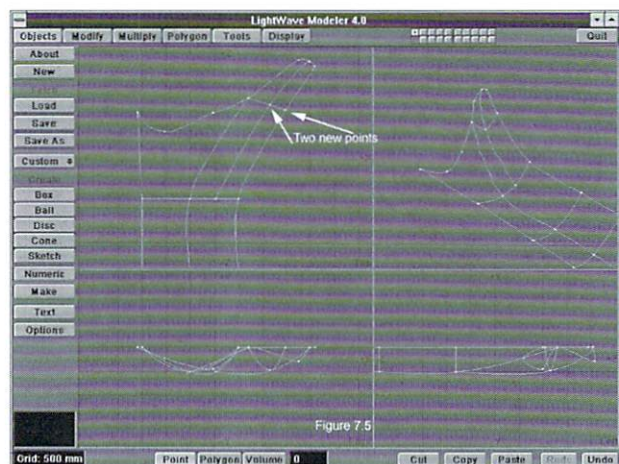

Figure 8
Now it's time to fix the curve that will control the depth for the thumb region. Remember, this "straight curve" has only two points. After adding the middle point to the straight curve, we'll add another point to the right Z-axis curve. The new points will be used to create another cross section curve in the thumb region. (Later, you can alter the positions of these points to give the thumb more definition.) Look at Figure 8 and create a curve that is similar to mine or follow the steps outlined below:
- Use **Add Point (Polygon)** panel to create a new point on the middle thumb curve and right Z-axis curve. Look at Figure 8 for the point placements.
Can you find the area that does not conform to the above rule? Follow our thumb curve along the Z-axis. Somewhere the geometry should cease to form perfectly aligned quadrangle spline sections. If this is not corrected, heinous, model-threatening rendering errors will occur. Assume we use patch values of 5 for perpendicular subdivisions and 5 for parallel subdivisions without fixing the alignment error. You can see in Figure 8's wireframe preview window, that we already have two small patch regions that lie directly above one large patch region. The junction between these two curves is where the error will be produced.